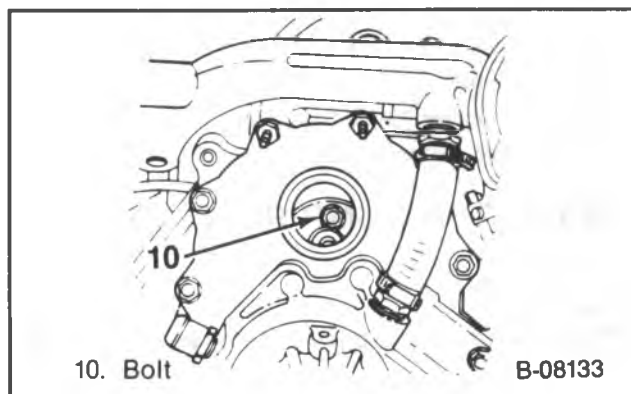
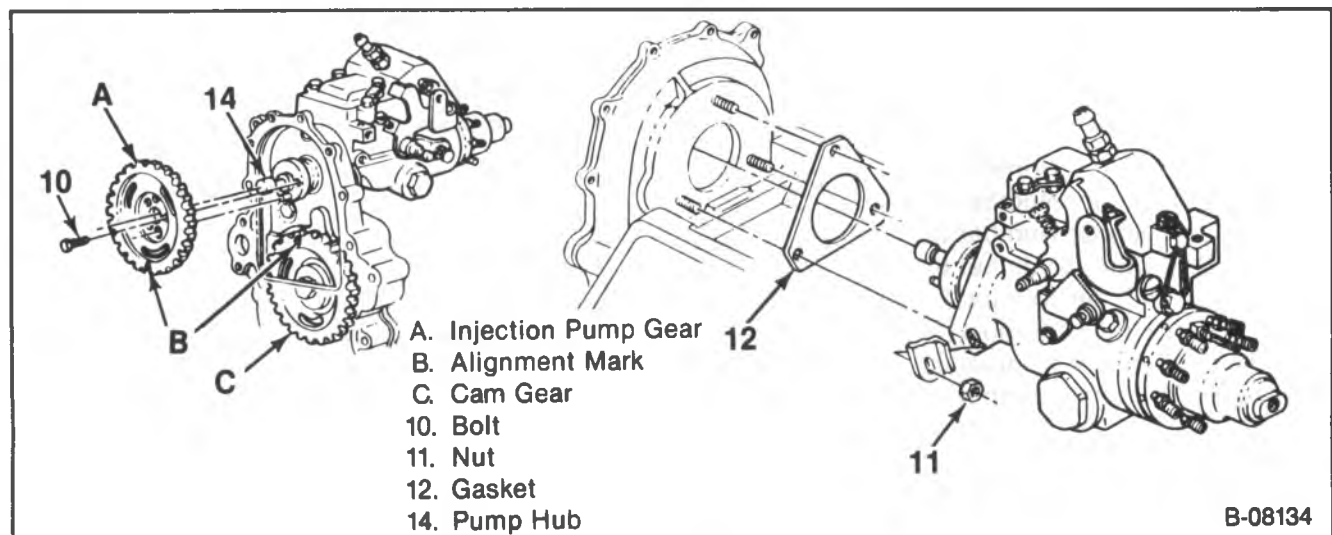

Figure 7 — Pump Drive Gear Bolts
Figure 8 — Injection Pump Installation
- Access is gained through the oil filler neck hole (figure 7).
12. Bolts (10).
13. Nuts (11) (figure 8).
15. Gasket (12).
1. New gasket (12) (figure 8).
3. Nuts (11) (figure 8).
4. Drive gear to injection pump bolts (10) (figure 8).
13. Drive gear to injection pump bolts (10) (figure 8).
23. Pump to front cover attaching nuts (11) (figure 8).
25. Gasket (12).